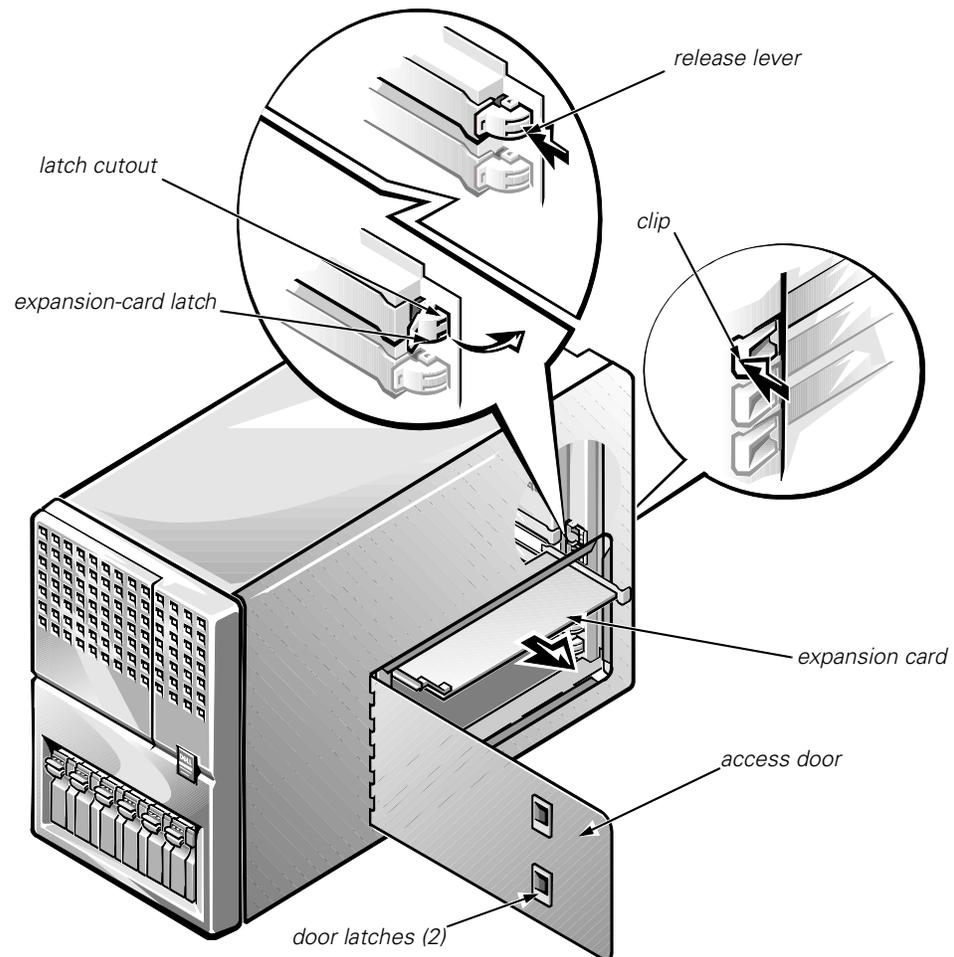

Figure 4-19. Expansion Card Removal
4. For the card you want to remove, press in and hold the clip on the back of the computer. At the same time, from inside the computer, press the *curved release lever in the middle of the expansion-card latch* toward the bottom of the card. After the release lever clicks into the latch cutout, rotate the latch away from the expansion-card bracket (see Figure 4-19).